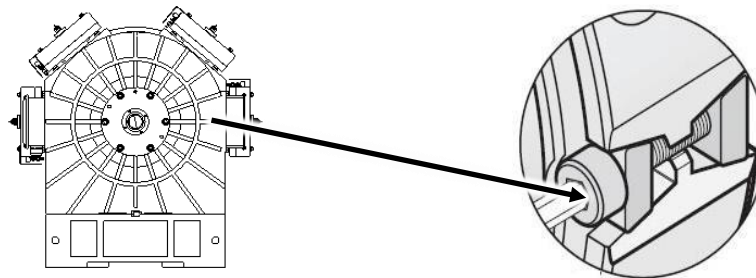

Figure 17
1. Loosen the encoder locking screw M2.5, as shown in Figure 17 with hex wrench (2 mm) through the encoder cover hole. The screw does not need to be removed.